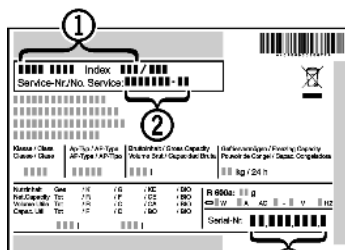

Fig. 16
- ▶ Read the appliance designation *Fig. 16 (1)*, service No. *Fig. 16 (2)* and serial No. *Fig. 16 (3)* off the type plate located inside the appliance on the left-hand side.
- ▶ Notify the customer service, specifying the fault, appliance designation *Fig. 16 (1)*, service No. *Fig. 16 (2)* and serial No. *Fig. 16 (3)*.